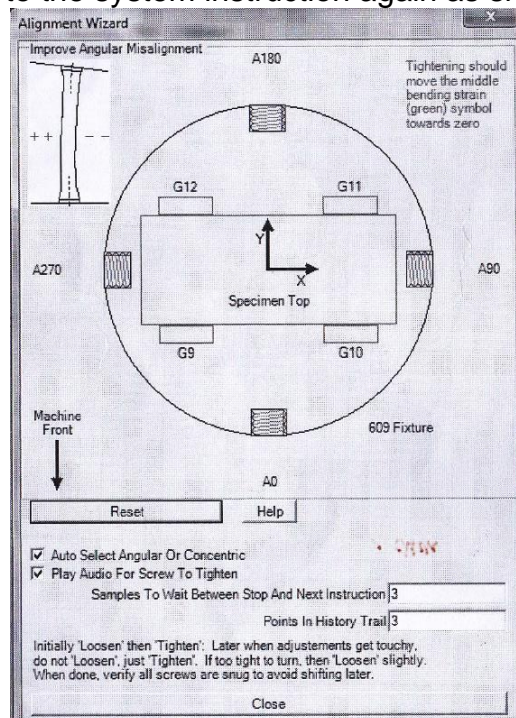

Figure 8: Alignment Wizard Settings
- p) Check on Auto Select Angular Or Concentric. Check on Play Audio For Screw To Tighten if you want the system to guide you on the alignment adjustment. Click Reset to listen to the system instruction again as shown in Figure 8.